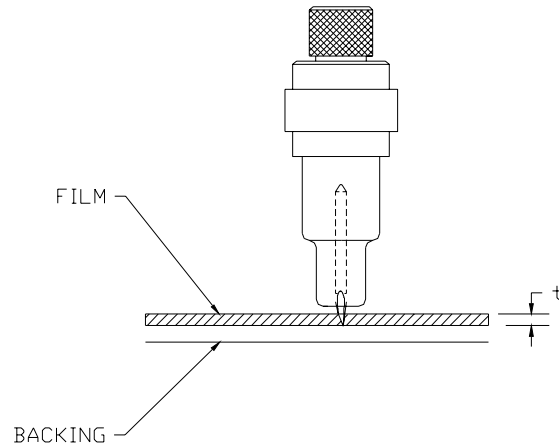

FIGURE 1-10
3. Extend the tip of the blade by the distance required for the desired cutting media (t), as shown in Figure 1-10. The blade should extend beyond the end of the knife holder only so far as is necessary to completely cut through the film layer without penetrating the backing. Cutting too deeply may result in damage to the cutting strip.